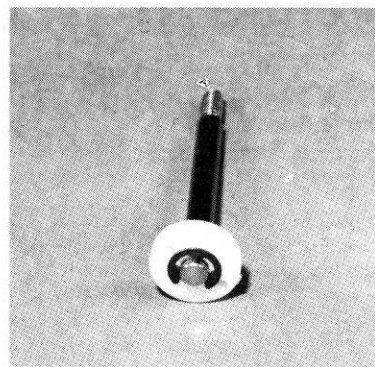

Fig. 91
□ **Fig. 91** Now slip the #6464 piston on each shaft, and then install the 2nd E-clip. Make sure both E-clips are fully seated in the groove.